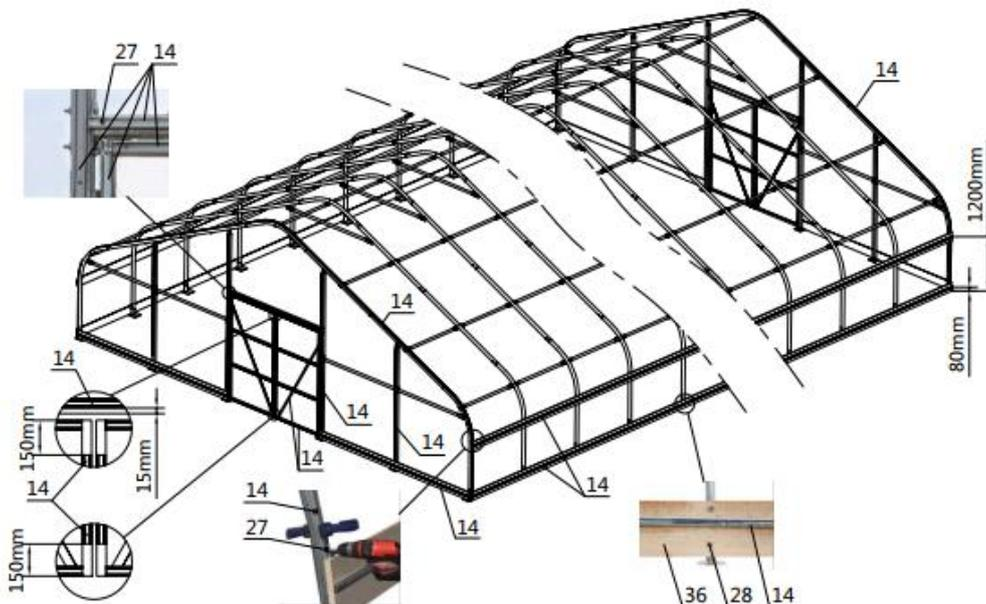

Figure 8
Step 5 : Installing boards (#36) and reed groove (#14) (refer to figure 8)
- (112) Reed groove (#14)
- (560) Self tapping screw (#27)
- (216) Self tapping screw (#28)
- (68) Board (#36)